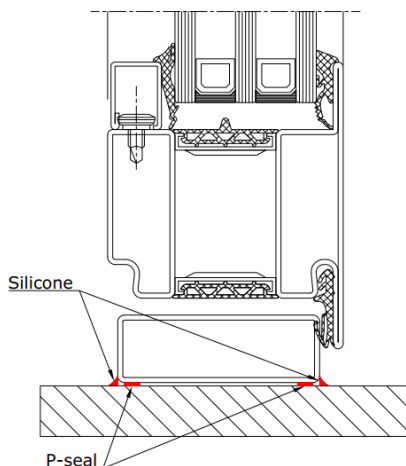

Figure 3 Adding silicone and P-seals
4. If necessary, two rows of P-seals can be glued under the threshold for additional sealing (Figure 3).
13. Use silicone Soudaflex 40FC, SOUDAL Silirub 2/S or Penosil General Silicone for the threshold and/or wall section (Figure 3).